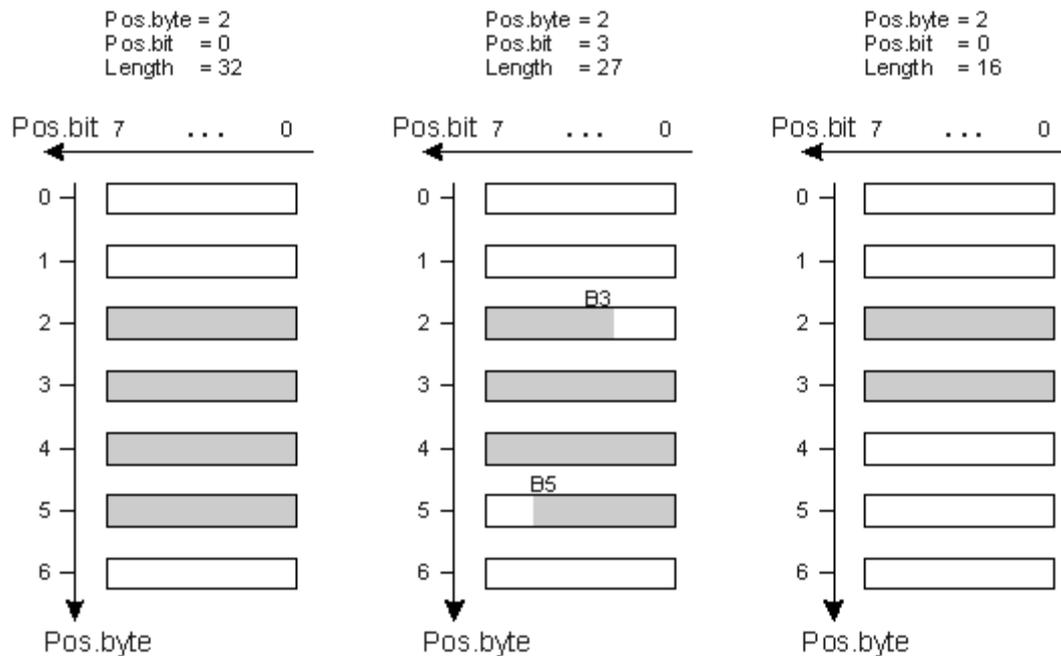

Figure 1 – Example for IO data within telegrams
- Channels within PROFIBUS data frames, see Figure 1: